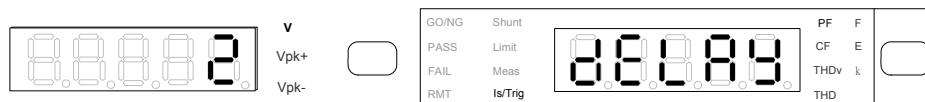

Figure 4-36 Setting DELAY and Time Length
4. In the special measurement display a blinking pattern will appear. Use \uparrow , \downarrow to select delay and press **Enter/Trig** to save the setting and go to Delay time (ms) selection display as Figure 4-36 shows.